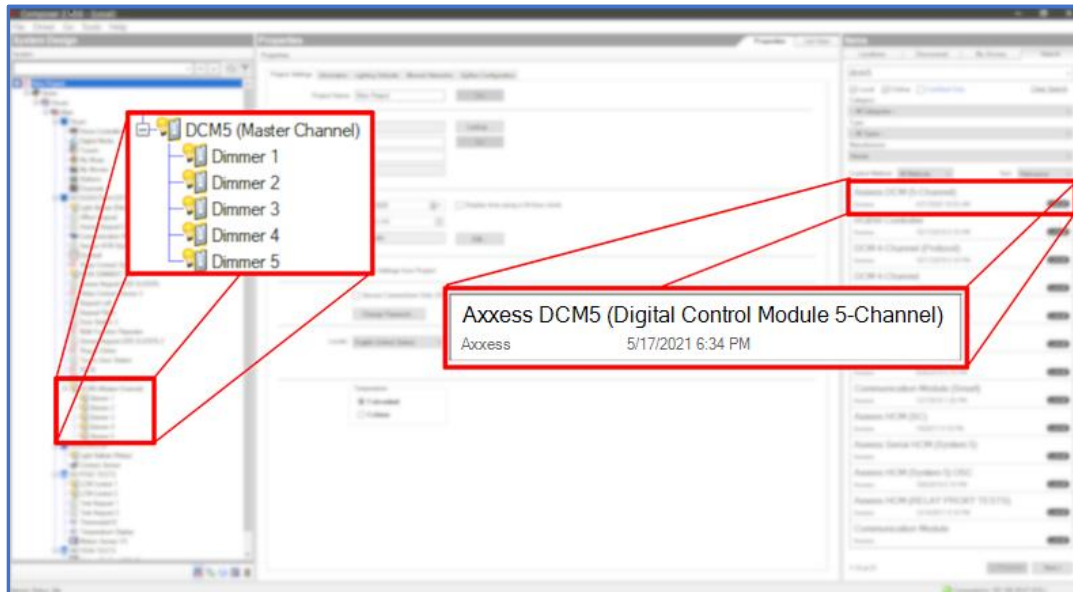

Figure 1: DCM5 Physical Output Channels
**Channel x Dimmer:** This property is used to bind physical channel outputs (as seen in Figure 1) to logical dimmer proxies in the driver. Eg) If Channels 1, 2, and 3 are bound to Dimmer 1, changing the light level of the Dimmer 1 proxy in the driver will cause Channels 1, 2, and 3 on the DCM5 to change too.